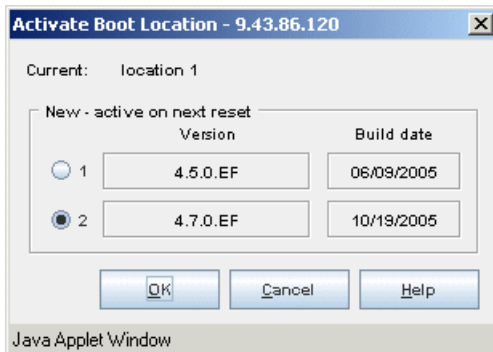

Figure 17-25 Selecting a new active boot image
5. You now need to activate the boot location with the new firmware. Click **Activate** and select the new image, as shown in Figure 17-25. Click **OK**.